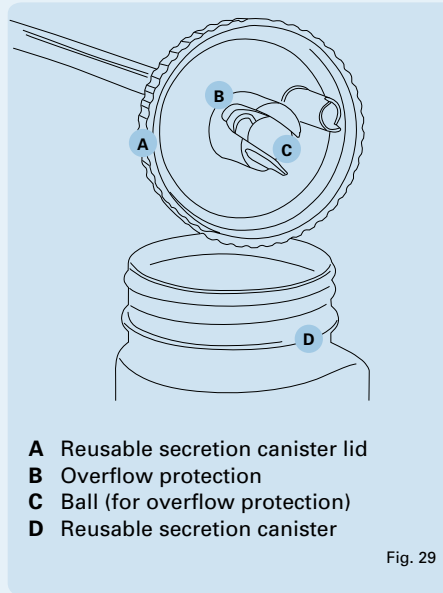

Fig. 29
2. Remove the ball before performing the following cleaning instructions (fig. 29(C)).
6. Assemble the dry components according to fig. 29.